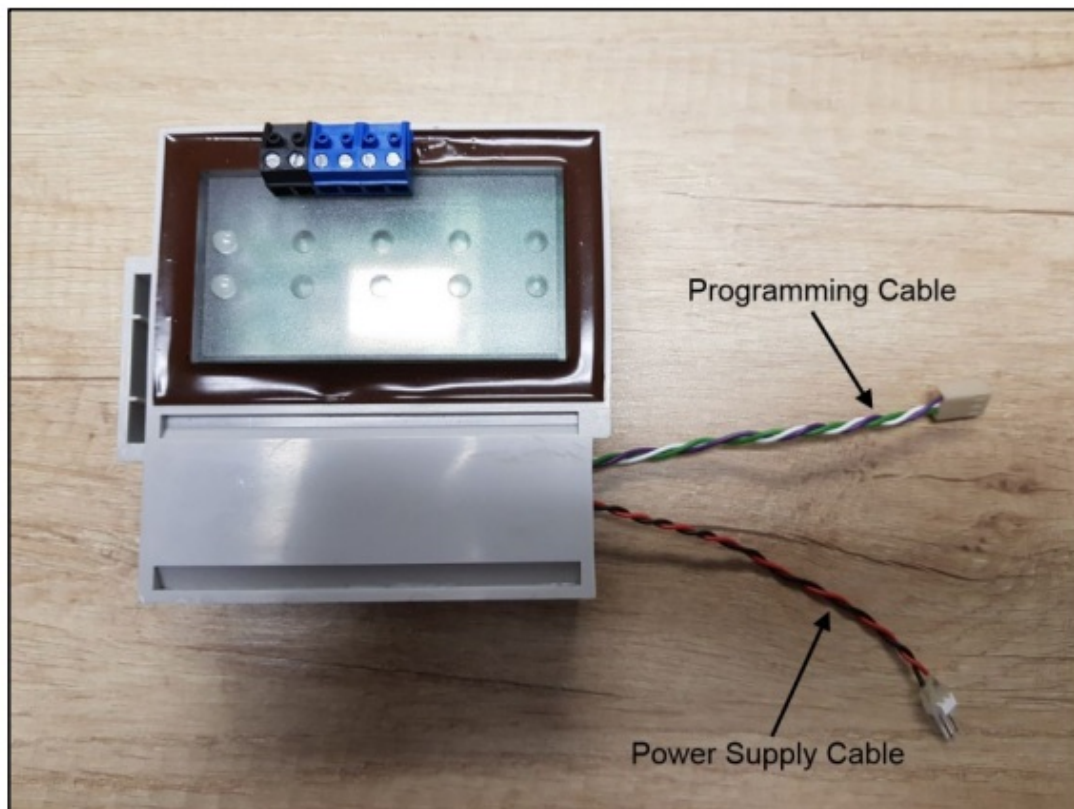

Figure 2: Programmer cables
- Referring to Figure 2 above, extract the battery, battery cable, and programming cable out of the receiver modules battery compartment.